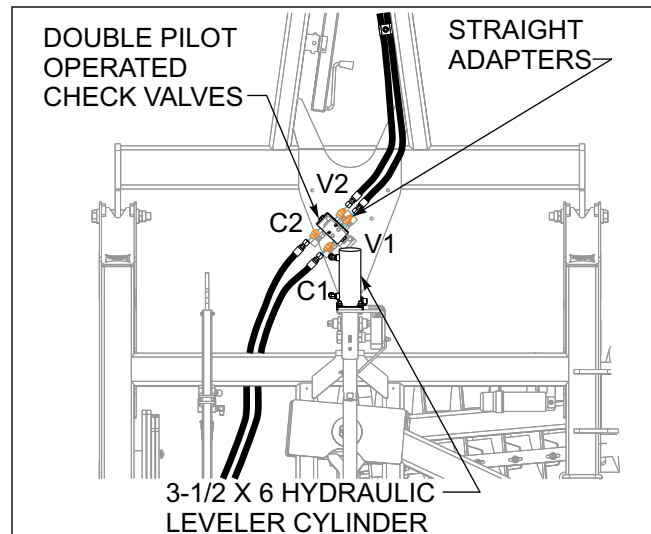
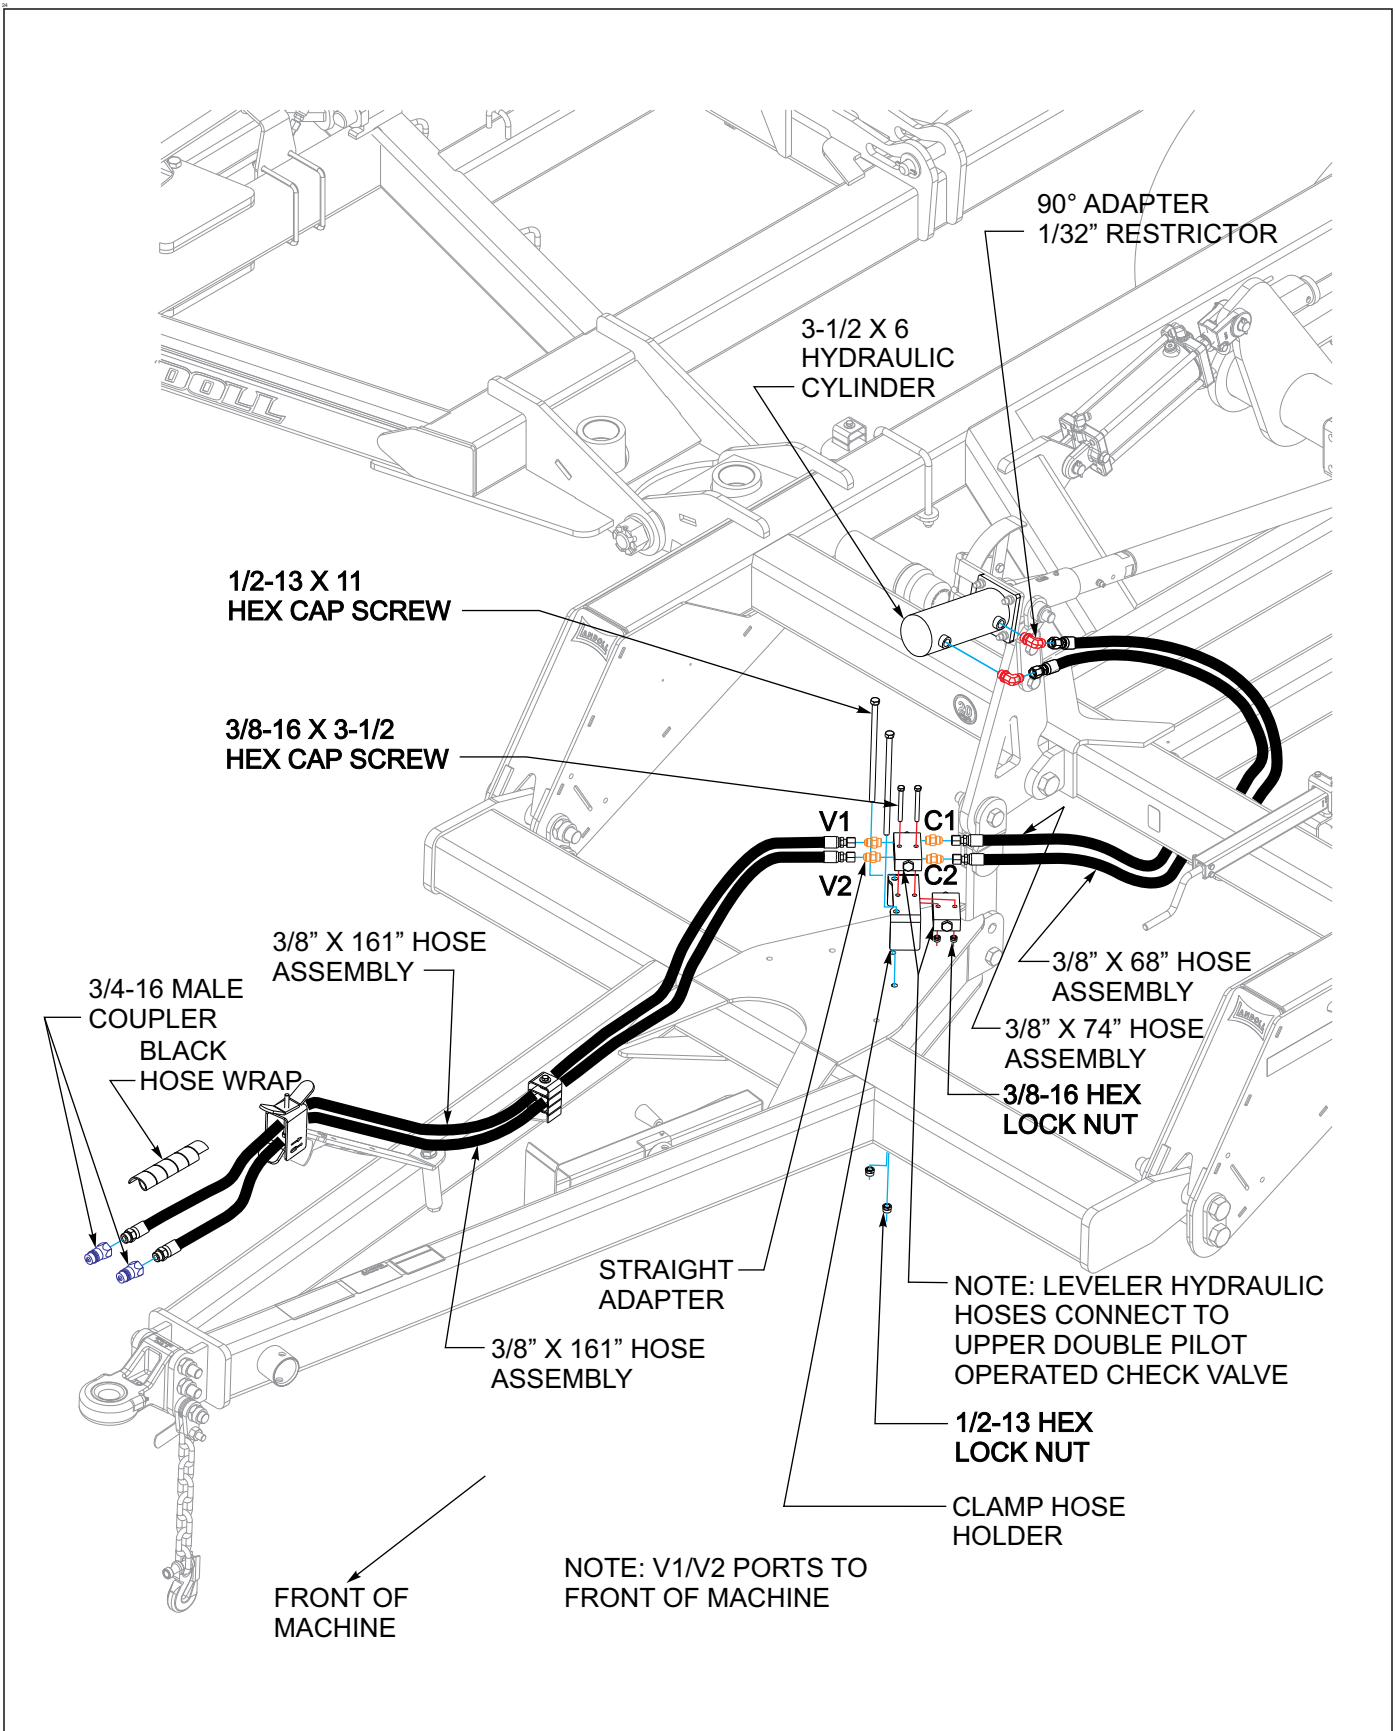
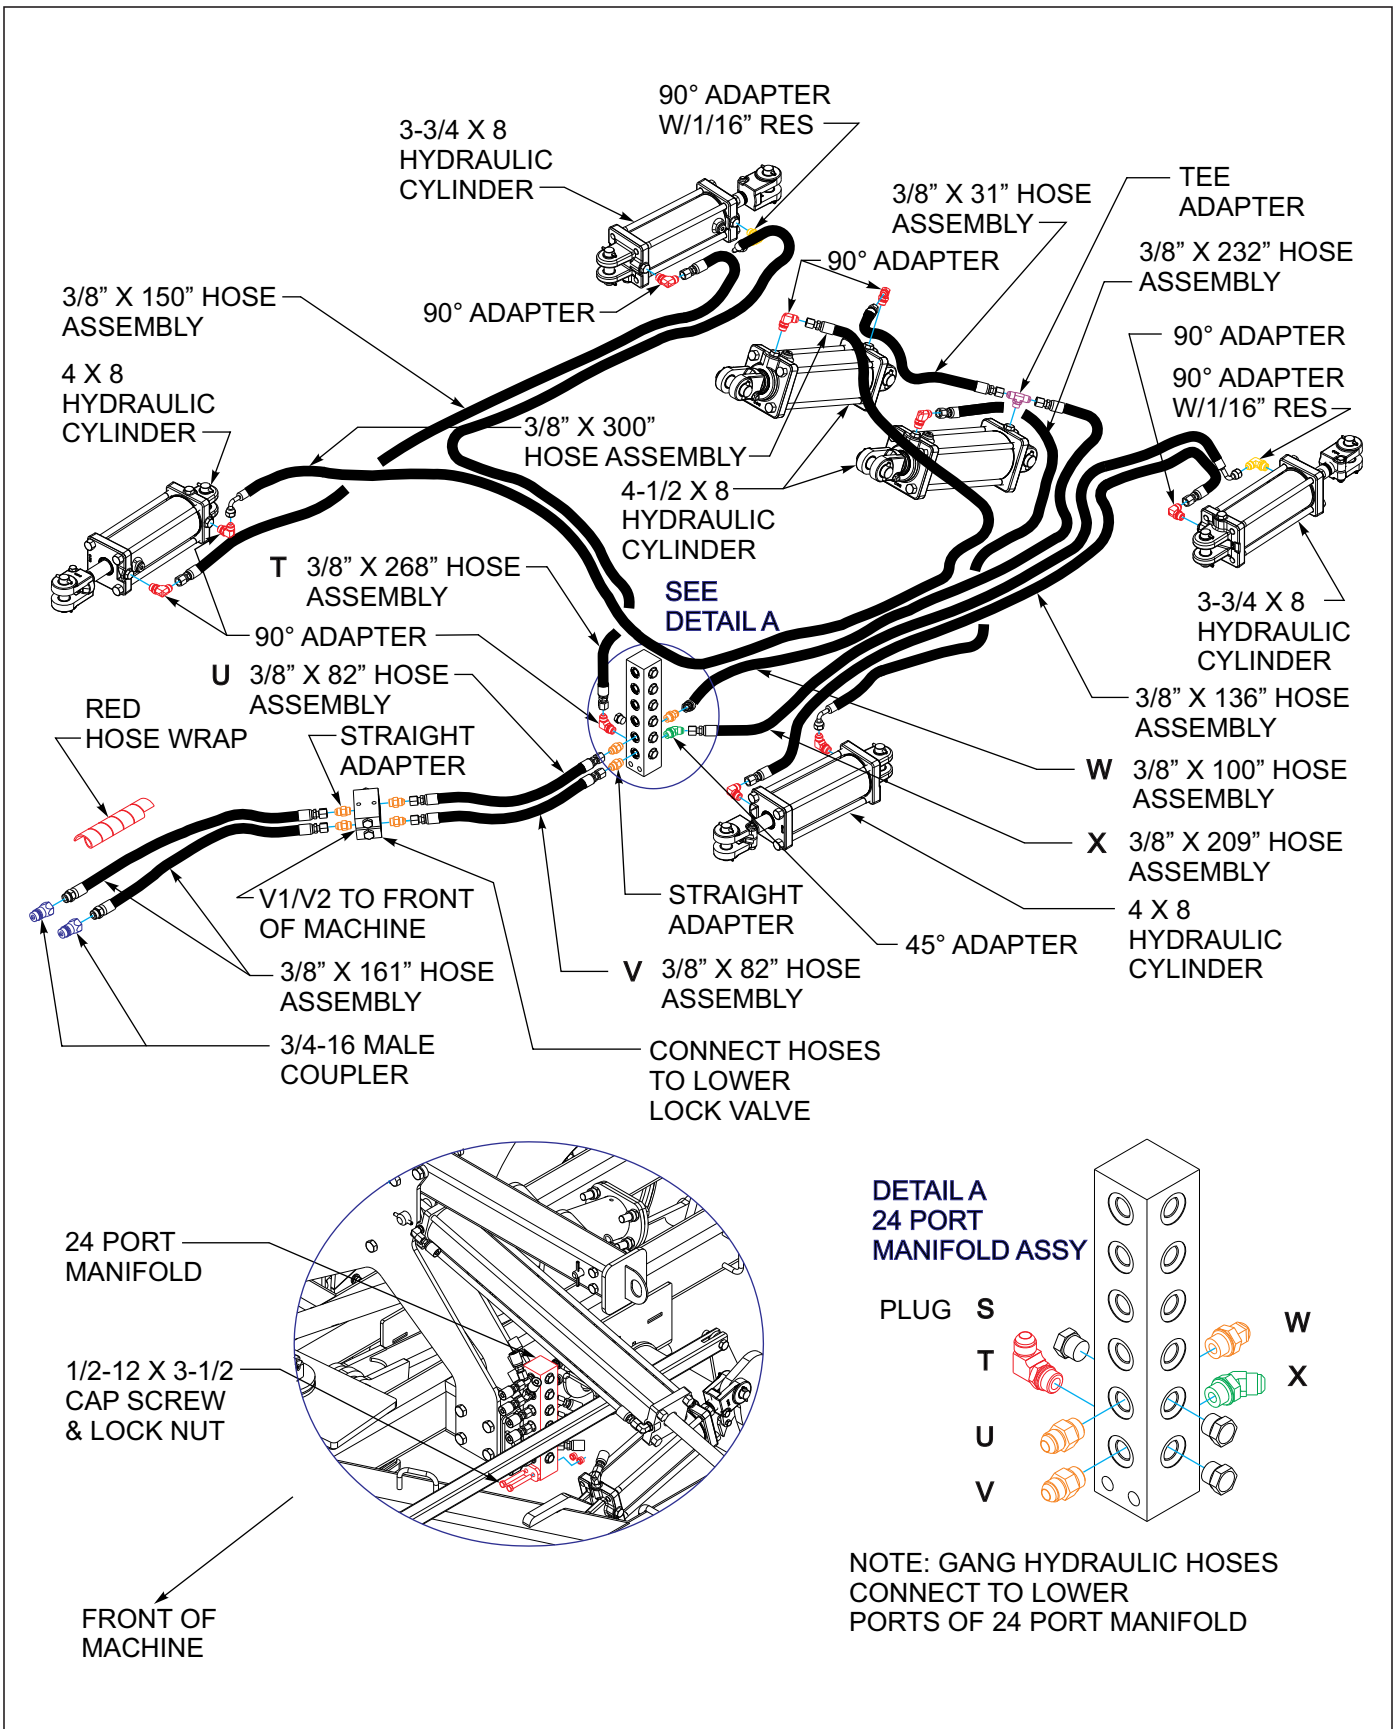

Figure 3-7: Check Valve Placement
Figure 3-22: Leveler Hydraulic Installation
Figure 3-29: Gang Hydraulic Installation 7530-23'
*For leveler hydraulic installation (**See Figure 3-22.**)*
Refer to Figures 3-22 for leveler hydraulic diagram for all models.
4. The leveler cylinder is pre-assembled with 1/32" restricted fittings that are olive drab in color (**See Figure 3-22.**) They will need to be orientated to face the rear of the machine.
5. At the rear of the hitch (**See Figure 3-7.**) there will be two identical valves installed (Double Pilot Operated Check Valves) with 3/8 x 3-1/2" bolts and nuts onto the hose clamp. Install these valves with the V1/V2 ports facing the tractor and the C1/C2 Ports facing the rear. Install straight o-ring adapter fittings into each of the 8 outlets. When plumbing the hydraulic disc gangs or the leveler it does not matter which hose goes to C1/C2 or V1/V2, leveler hydraulics (**upper valve, See Figure 3-29.**) or gang hydraulics (**lower valve, See Figure 3-22. 7530-23'/26'/29'/32'/35'**), just so they are facing the correct direction and hooked to the cylinder or the tractor correctly.
8. Install Leveler cylinder hoses and couplers (**See Figure 3-22.**) Wrap leveler hoses with black hose wrap.